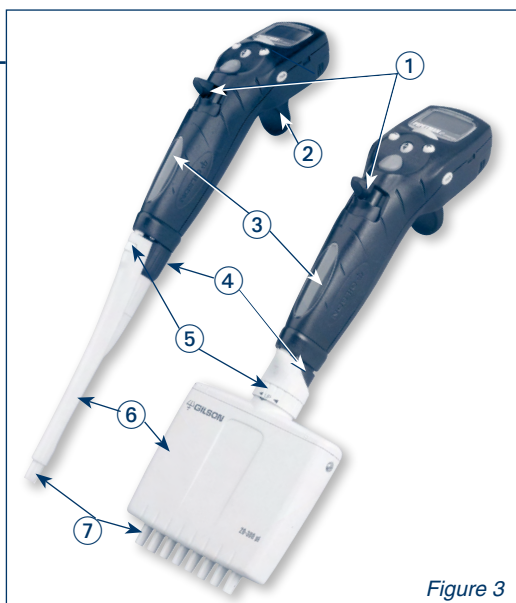

Figure 3
- 1) Set the position of the adjustable hook to the position of maximum comfort for you size of hand (see figure 3). Loosen the retaining screw (do not undo completely), slide the hook into the most comfortable position, and then retighten the screw.
- 3) Rotate the tip-adjustment force regulator until you reach the optimum force for you and the type of tip being used (see figure 3).
Pipette (figure 3)